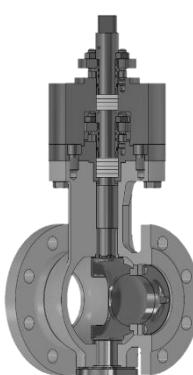

Fig. 7: 82.7-02-DSB
- **Double stuffing box DSB** - with or without test connection (fig. 7)